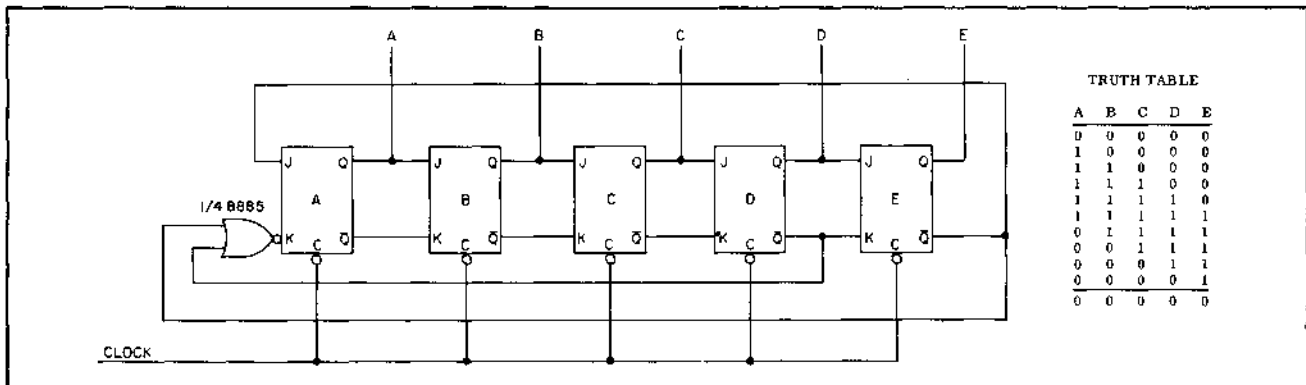

Figure 4-45
Twisted ring counters provide a count of $2N$ for N binary bits. This is generally accomplished by feeding back Q to K and \bar{Q} to J . In some instances, the counter may have sub-loop conditions other than those shown in the truth table. To avoid these conditions, a self-correcting configuration such as that shown in Figure 4-45 should be used.
2. Take the next largest integer above $\frac{N}{3}$, where N is the number of binary bits, and run that many feedback loops from \bar{Q} to the NOR gate. The loops are connected by starting with the last bit and working back. In Figure 4-45, N is 5, so $5/3$ is $1\text{-}2/3$, and the number of feedbacks required is 2. Hence, feedback loops are connected from the last and next to the last \bar{Q} s. If N were 6, the number would be 3.